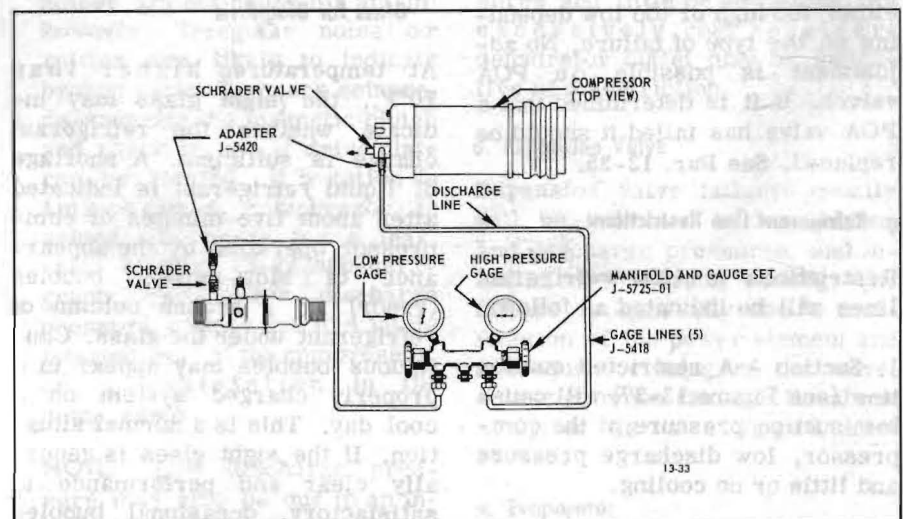

Figure 13-104—Functional Test Set-Up
2. Interconnect manifold and gage set (J-5725-01), gage charging lines (J-5418) and gage adapters (J-5420) to air conditioning system as shown in Figure 13-104.